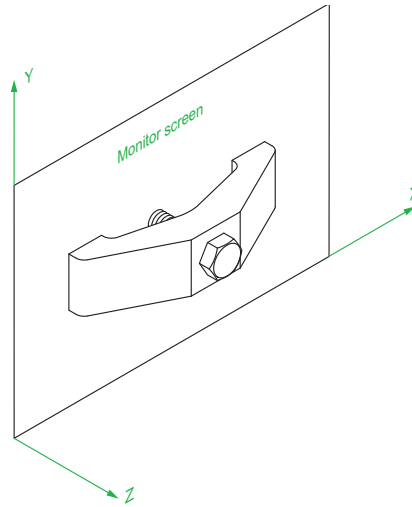

Fig. 1.21 A 3D model drawing showing the X, Y and Z coordinate directions
3D coordinates include a third coordinate (Z), in which positive Z units are towards the operator as if coming out of the monitor screen and negative Z units going away from the operator as if towards the interior of the screen. 3D coordinates are stated in terms of  $x,y,z$ .  $x,y,z = 100,50,50$  is 100 units to the right of the origin, 50 units above the origin and 50 units towards the operator. A 3D model drawing as if resting on the surface of a monitor is shown in Fig. 1.21.